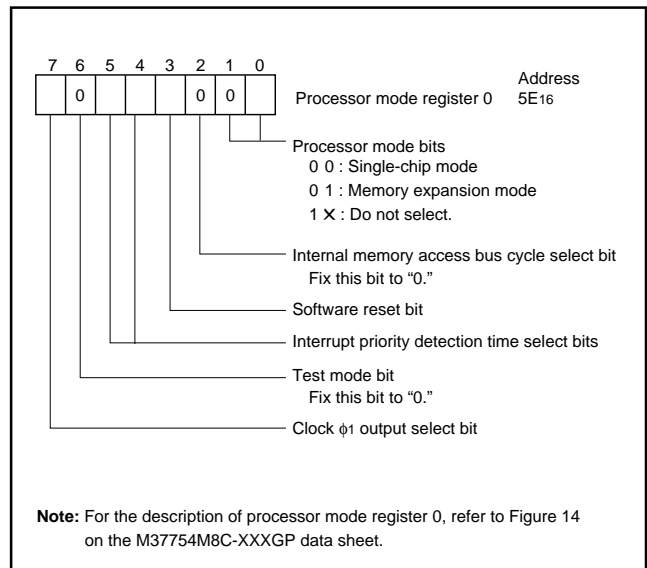

Fig. 23 Processor mode register 0 bit configuration in CPU rewriting mode
Figure 23 shows the processor mode register 0 bit configuration in the CPU reprogramming mode. Set bit 1 to "0" (single-chip or memory expansion mode) in the CPU reprogramming mode. Set bit 2 (internal memory access bus cycle select bit) to "0."
- ① Apply 0 V to the CNVss/VPP pin for reset release.
- ② Set the processor mode register 0 (see Figure 23).
- ③ After CPU reprogramming mode control program is transferred to internal RAM, jump to this control program on RAM. (The following operations are controlled by this control program).
- ④ Set "1" (8-bit length) to data length select flag m.
- ⑤ Set "1" to the CPU reprogramming mode select bit.
- ⑥ Apply VPPH to the CNVss/VPP pin.
- ⑦ Read the CPU reprogramming mode monitor flag to confirm whether the CPU reprogramming mode is valid.
- ⑧ The operation of the flash memory is executed by software-command-writing to the flash command register .